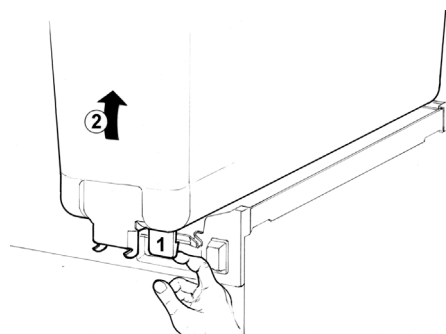

figure 2
- 2** Remove the empty bowl by lifting first its **front side (faucet side)** up and off bowl gasket (see figure 2).